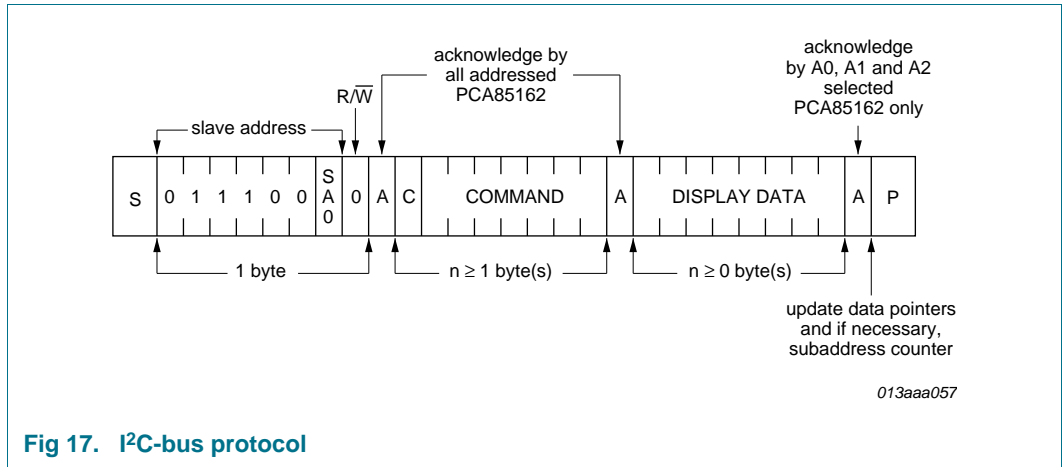

Fig 17. I2C-bus protocol
The I2C-bus protocol is shown in Figure 17. The sequence is initiated with a START condition (S) from the I2C-bus master which is followed by one of two possible PCA85162 slave addresses available. All PCA85162 whose SA0 inputs correspond to bit 0 of the slave address respond by asserting an acknowledge in parallel. This I2C-bus transfer is ignored by all PCA85162 whose SA0 inputs are set to the alternative level.